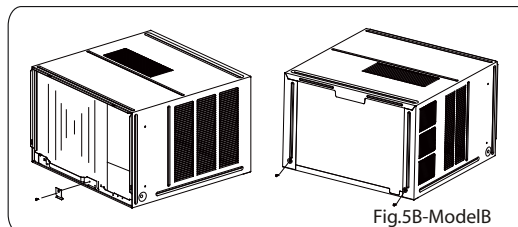

Fig.5B-ModelB
1. Remove one screw securing the chassis fixing bracket, then take down the chassis fixing bracket. Remove two screws located on the back of the cabinet as shown in Fig.5B.